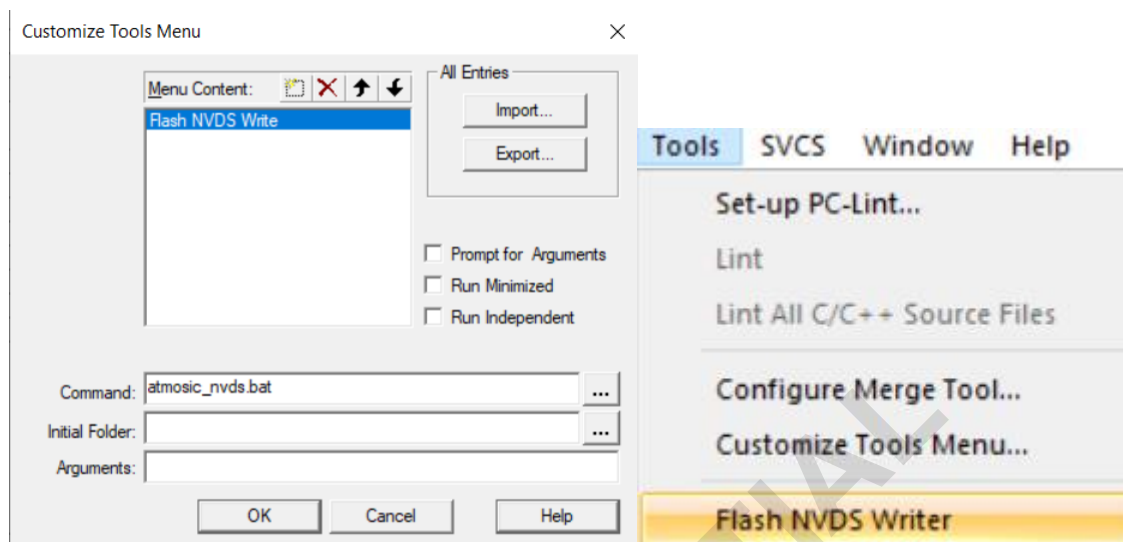

Figure 8 - Customize Tools Menu
- Figure 8 - Customize Tools Menu
This batch file can be added into keil's customize tools menu as in Figure 8.